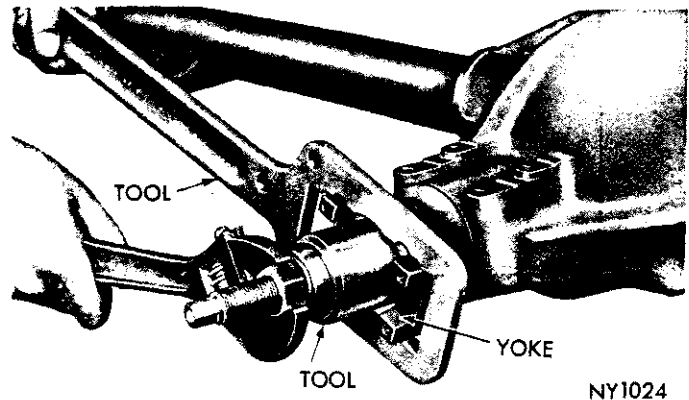

Fig. 21—Installing Companion Flange
(8) Install drive pinion flange using Tool C-496 and holding Tool C-3281 (Fig. 21).
(9) Remove Tool C-3718 and install belleville washer, (convex side of washer up) and pinion nut. Tighten nut to 240 foot-pounds.